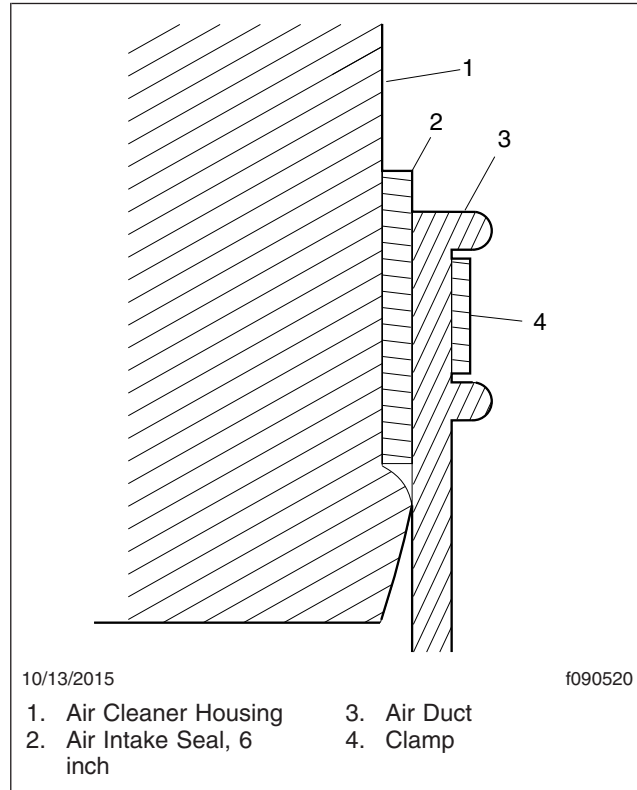

Fig. 5, Installation, Air Intake Seal and Housing
5. Apply P-80® Emulsion (or an equivalent lubricant) to the seals, the base of the air cleaner housing (See Fig. 5) and the turbocharger inlet (See Fig. 4).